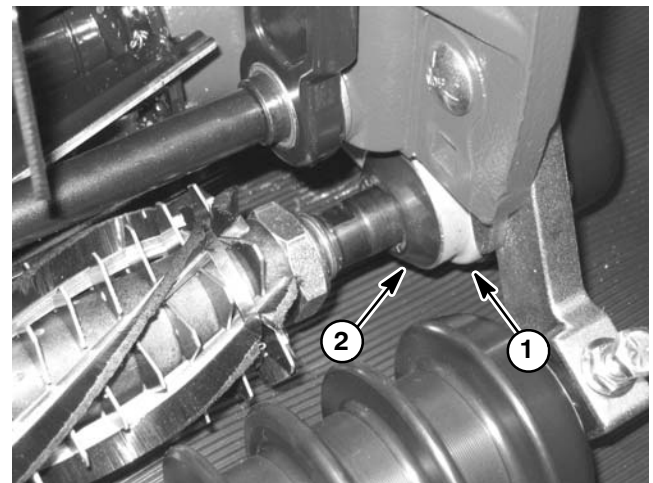

Figure 10
B. Remove flange head screw (item 11) that retains drive pulley. Pull drive pulley from drive shaft. Locate and retrieve square key (item 4) from drive shaft.
C. Remove the flange nut (item 6) that secures driven pulley (item 5) to groomer shaft. Remove driven pulley from shaft. Locate and retrieve square key (item 4) that locates driven pulley on shaft.
D. Slide washer (item 3) and pulley spacer (item 2) from groomer shaft.
E. Remove shoulder bolt that secures quick-up ball joint rod to groomer plate (Fig. 10).
F. Disconnect extension spring (item 14) from stud on groomer plate.
G. Remove two (2) socket head screws (item 7) that secure groomer components to cutting unit side plate.
B. Remove two (2) socket head screws (item 7) that secure groomer components to cutting unit side plate.
3. Make sure that excluder seals (item 23) and O-ring (item 24) are positioned on groomer shaft. The excluder seal lips should be toward the end of the groomer shaft. Apply a film of grease onto seal lip.
6. Check that excluder seals just touch groomer plate assembly (Fig. 10). Reposition excluder seals on groomer shaft if necessary.